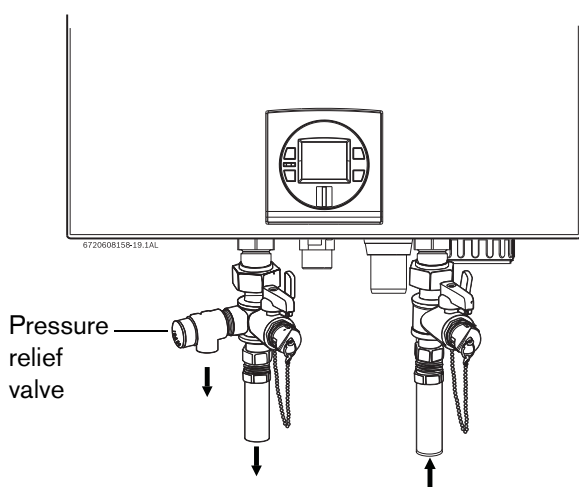

Fig. 33 Plumbing Connections (with shutoff valves) and Pressure Relief Valve
- ▶ **Full port shutoff valves should be installed on both the cold water supply and hot water outlet lines to facilitate servicing the heater (see Fig. 33).**
The location of the PRV must be readily accessible for servicing or replacement, and be mounted as close to the water heater as possible. See Fig. 33. To install the PRV, a suitable fitting connected to an extension on a "T" fitting can be sweated to the hot water line.